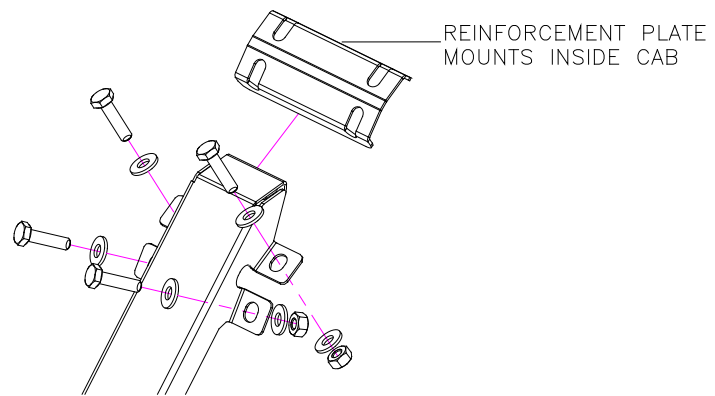

Fig. 3
9. Apply a generous amount of silicone to the holes to ensure a watertight seal and install the brackets marked "DOB" (driver side) & "POB" (passenger side) in the original OEM locations with the "IBSYM" reinforcement plate on the inside of the cab using the supplied 1/4-20x1.25" bolts, locknuts and washers (Fig. 3). Do not fully tighten the hardware as some movement is still needed.